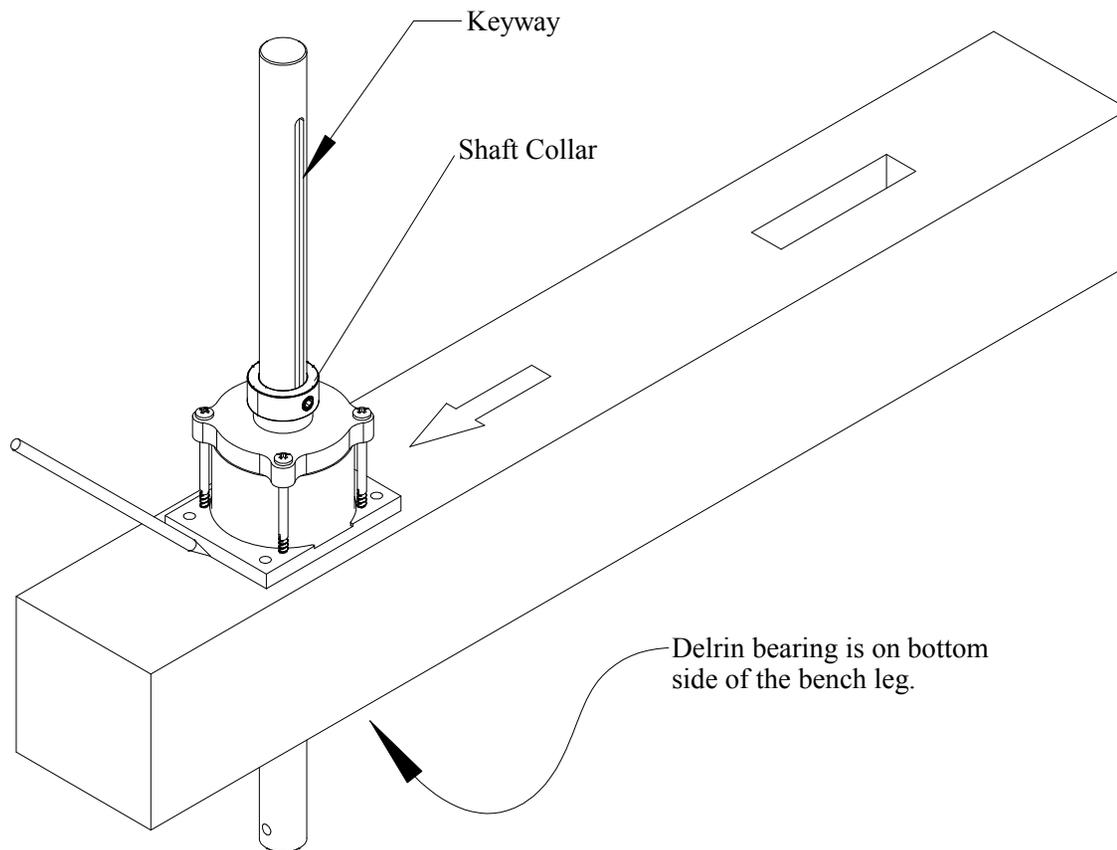

FIG. 2
Step 3: Temporarily tighten the shaft collar on the shaft as shown in Fig. 2 to hold the shaft about mid way in the housing.
Step 7: Remove the VX 20 and drill 9/64" diameter holes 1-1/8" deep at the four marked locations. Orient the clamp shaft keyway to the right as viewed from the front. This will prevent the keyway from becoming a saw dust trap. See Fig. 2. Install the VX 20 using the #10 X 1-1/2" long washer head screws.